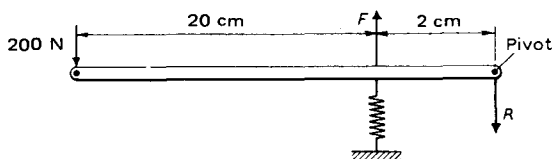

Fig. 2.40
**Example.** The lever shown in Fig. 2.40 is used for testing springs. Calculate the force on the spring and the force on the pivot when a load of  $200 \text{ N}$  is applied as shown.